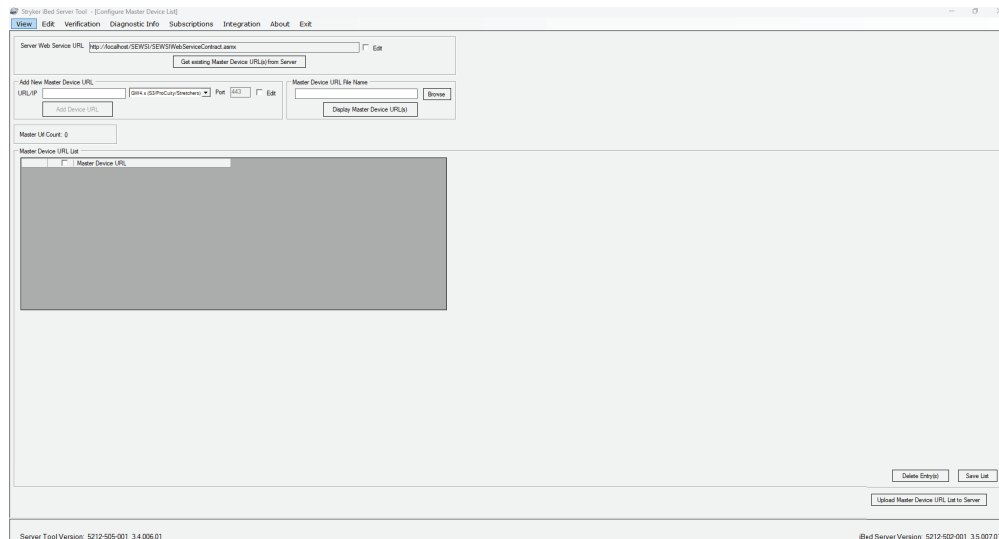

Figure 51 – Edit Master Device List
2. In the **Stryker iBed Server Tool** window, select **Edit**→**Master Device List** (Figure 51).